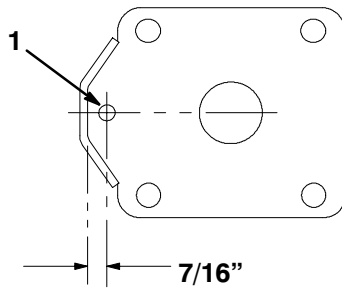

**Figure 2**
1. If your Topdresser does not have cleanout holes, use the dimensions in Figure 2 to locate, mark, and cut a 2" diameter cleanout hole in each side of the unit.
2. Using the dimensions in Figure 2, locate, mark, and cut a 3/4" wide clearance slot in each side of the unit.